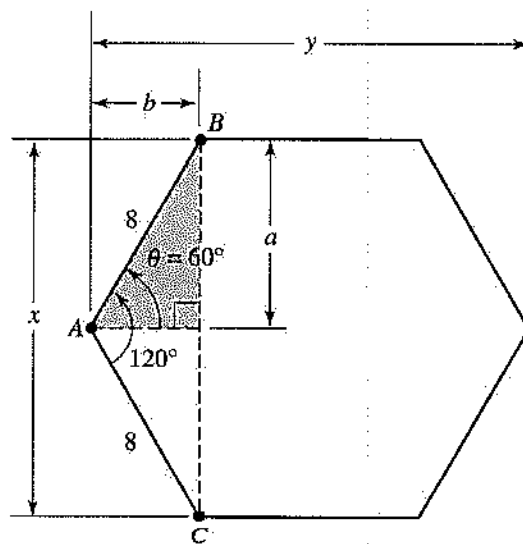

Figure 9.12
- A. Since a hexagonal nut has six sides, the sum of its interior angles is $(6 - 2)180^\circ = 720^\circ$. Therefore, each interior angle measures $720^\circ/6 = 120^\circ$, implying that triangle ABC is isosceles with $\theta = 60^\circ$, as shown in Figure 9.12.
In the right triangle in Figure 9.12,
B. Again, in the right triangle in Figure 9.12,